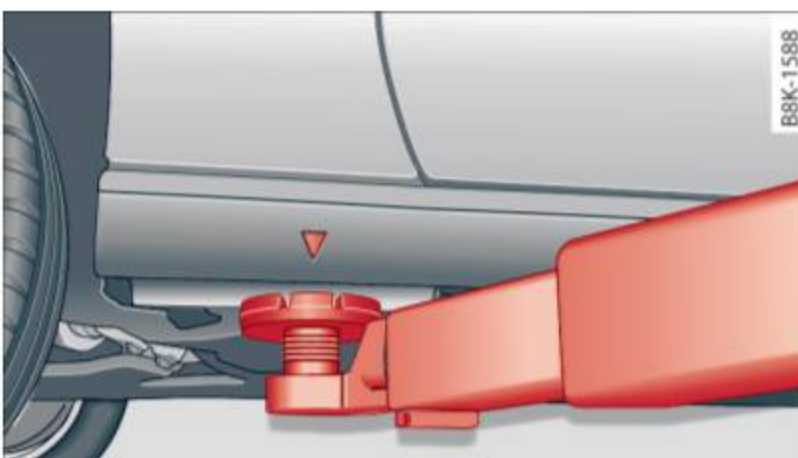
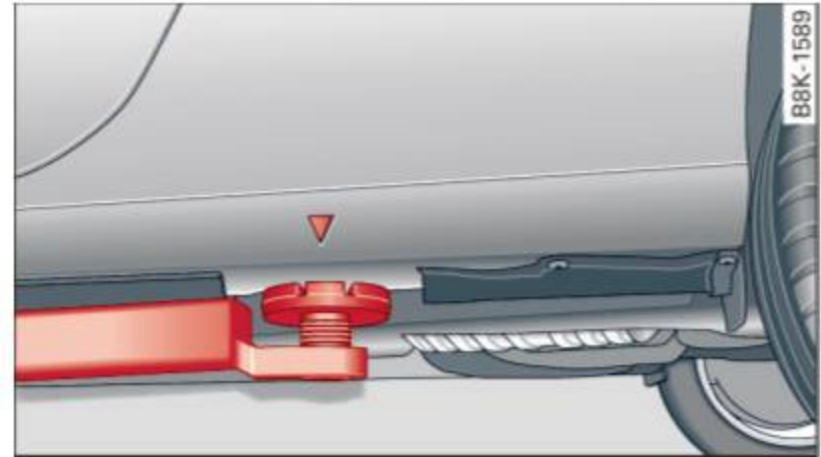

Fig. 201 Front lifting point
Fig. 202 Rear lifting point
- ▶ Locate lifting points ⇒ *fig. 201* and ⇒ *fig. 202*.
The lifting point is located on the floor pan reinforcement about at the same level as the jack mounting point ⇒ *fig. 201*. **Do not lift the vehicle at the vertical sill reinforcement.**
The lifting point is located on the vertical reinforcement of the lower sill for the onboard jack ⇒ *fig. 202*.
- Always lift the vehicle only at the special workshop hoist and floor jack lift points illustrated ⇒ *fig. 201* and ⇒ *fig. 202*.